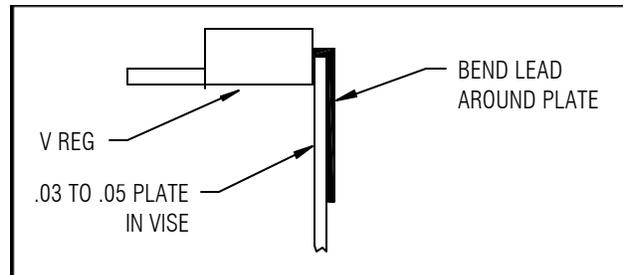

Figure 30 Bending the voltage regulator leads using a thin metal plate held in a vise.
The voltage regulator IC's and their heatsink will be installed next. See the right hand side of Figure 25 for location and Figure 30.for mounting detail.
- ___ 3. Locate the voltage regulator with five leads marked LM2931C. Bend only the **CENTER** and **TWO OUTSIDE** leads down as shown in Figure 30. Clamp a .03 to .05 thick piece of metal in a vise, hold the voltage regulator in the position shown and bend the leads one at a time. Or use the metal back of one of the voltage regulators to bend the leads around. Do not clamp IC in vise!